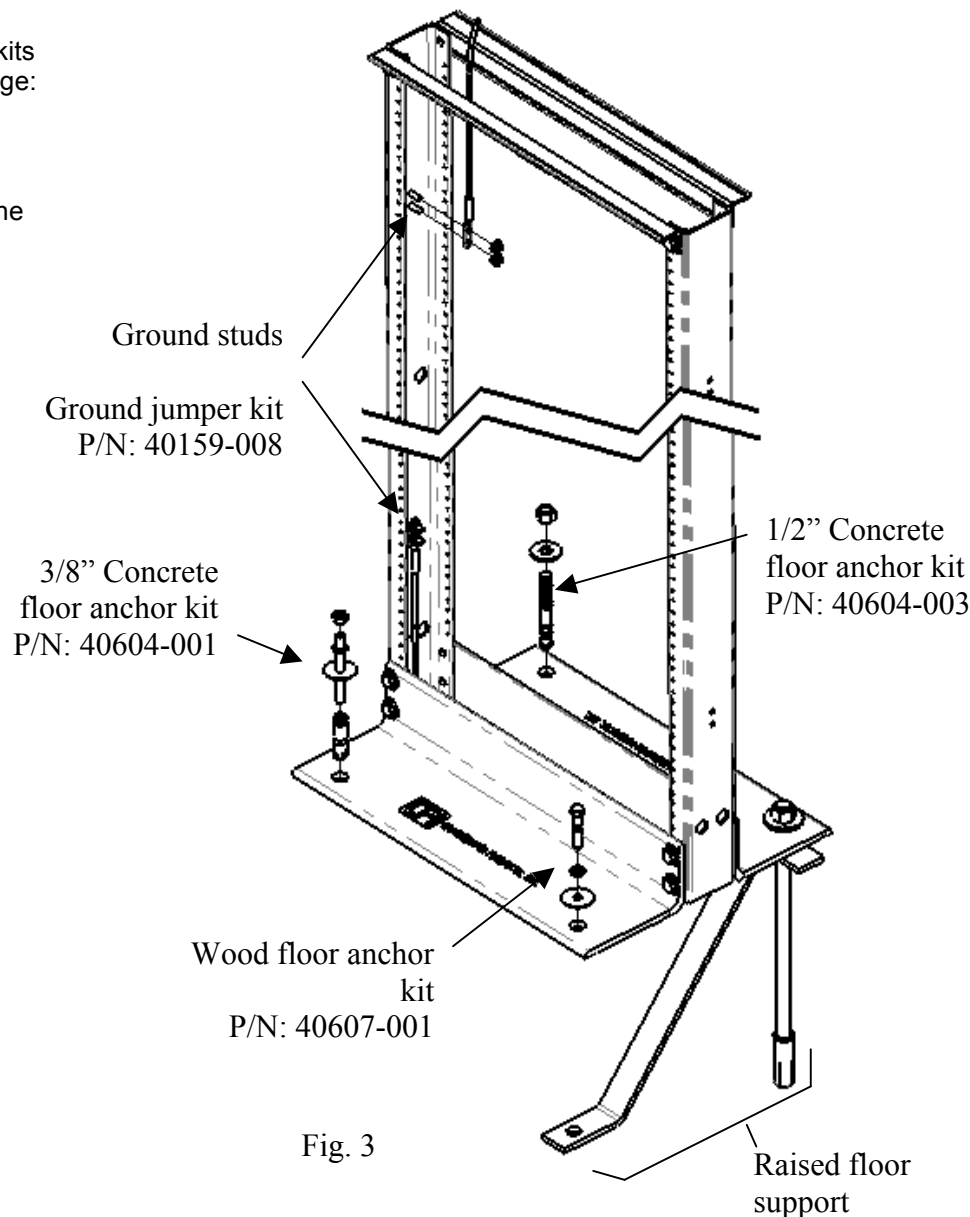

Fig. 3
- 6) The rack must be securely anchored to the floor. Floor mounting kits may be ordered from CPI as follows. Reference Figure 3, next page: